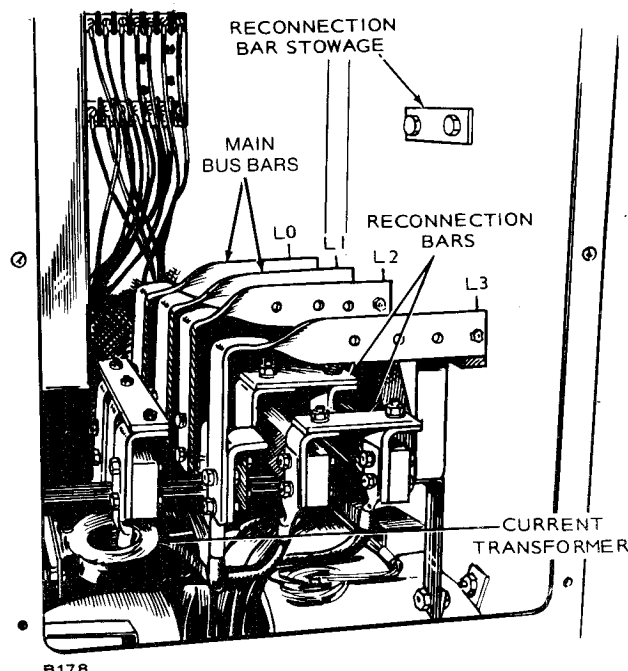

FIGURE 8. RECONNECTION BARS
**Reconnection Bars:** Several reconnection bars are provided that can be bolted or unbolted (see Figure 8) to the main bus bars (L0, L1, L2, & L3). Bus bars and reconnection bars are made of tin plated aluminum to resist electrolytic corrosion. Select the voltage required and bolt the reconnection bars to the bus bars as shown in Figure 11. Do not overtighten the bolts.